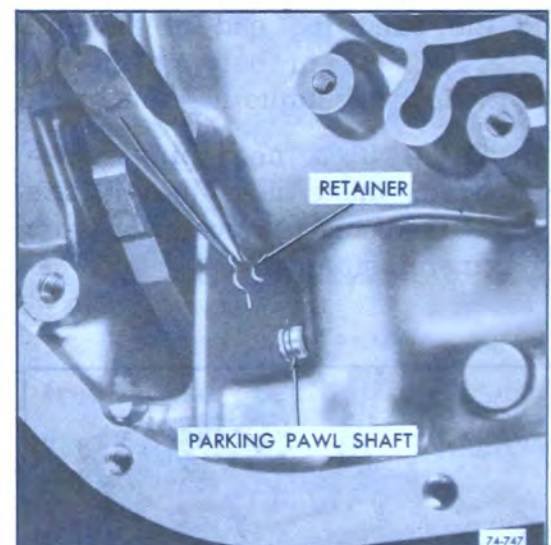

Figure 74-533
h. Remove parking pawl shaft retainer. See Figure 74-533.